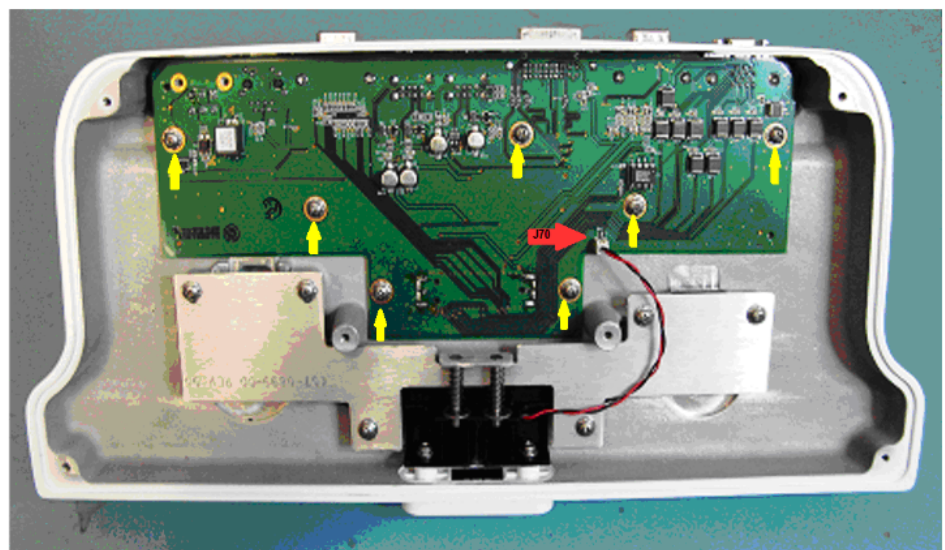

Figure 4-29 Docking Station Enclosure
- 4 Remove the connection J70 (docking station release button LED power) from the docking station PCBA. Refer to Figure 4-29.
- 5 Remove the seven (7) screws from the monitor docking PCBA. Refer to Figure 4-29.